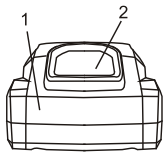

FIG. 3
1. To insert the battery (1) (FIG. 3) into the device, push the battery along the guide rails (3) (FIG. 3) into the device. You will hear it click into place.
2. To remove the battery (1) (FIG. 3) from the device, press the release button (2) (FIG. 3) on the battery and pull the battery out.